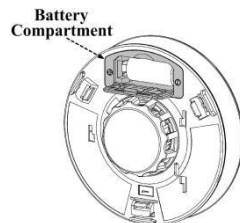

Figure 8: Battery compartment
7. Battery installation, shown in **Figure 8**